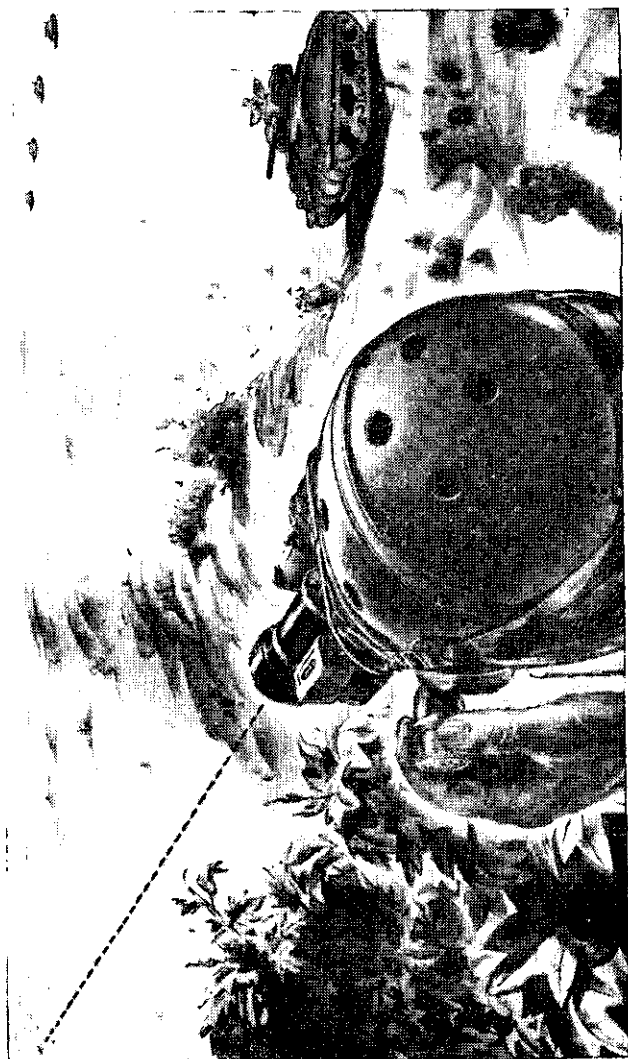

Figure 30.—Tank platoon employing indirect laying.
b. Two or more tanks in defilade.—Where two or more tanks are placed in a defiladed position, each tank commander may line in his tank and the target. Usually, where there are more than two tanks, an observer (the platoon commander or platoon sergeant) lays them parallel. (See fig. 30 and par. 63.) One observer (usually the platoon commander or platoon sergeant) always adjust the fire of all the tanks. Communication may require voice relay or radio.